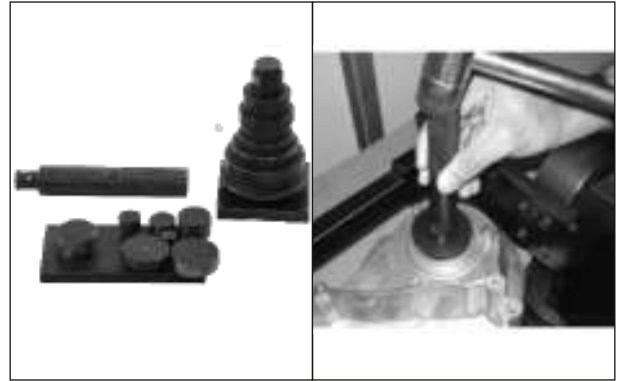

Fig. 1.15
- Put the tool along with the oil seal as shown in the figure and apply gently glow with a mallet to assemble oil seal.(Fig. 1.15)